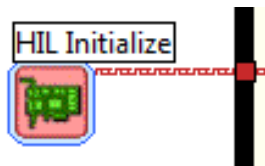

Figure 4.3: HIL Initialize Express VI
5. **Configure DAQ:** Ensure the HIL Initialize block is configured for the DAQ device that is installed in your system. To do this, go to the block diagram (CTRL-E) and double click on the **HIL Initialize** Express VI shown in Figure 4.3.